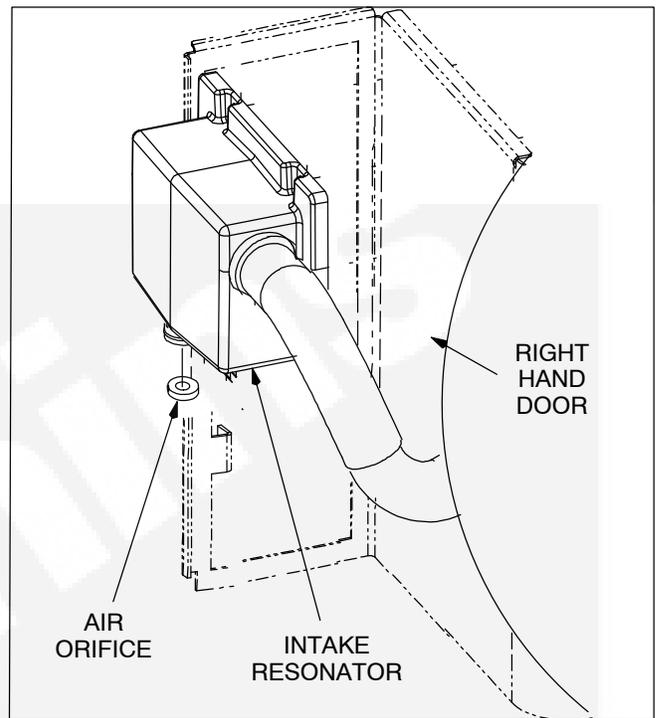

FIGURE 3-3. INSTALLING THE AIR ORIFICE (SPEC A ONLY)
2. Insert the air orifice supplied with the flexible gas hose into the inlet of the air intake resonator (Figure 3-3). (Orifice used only on spec A units)